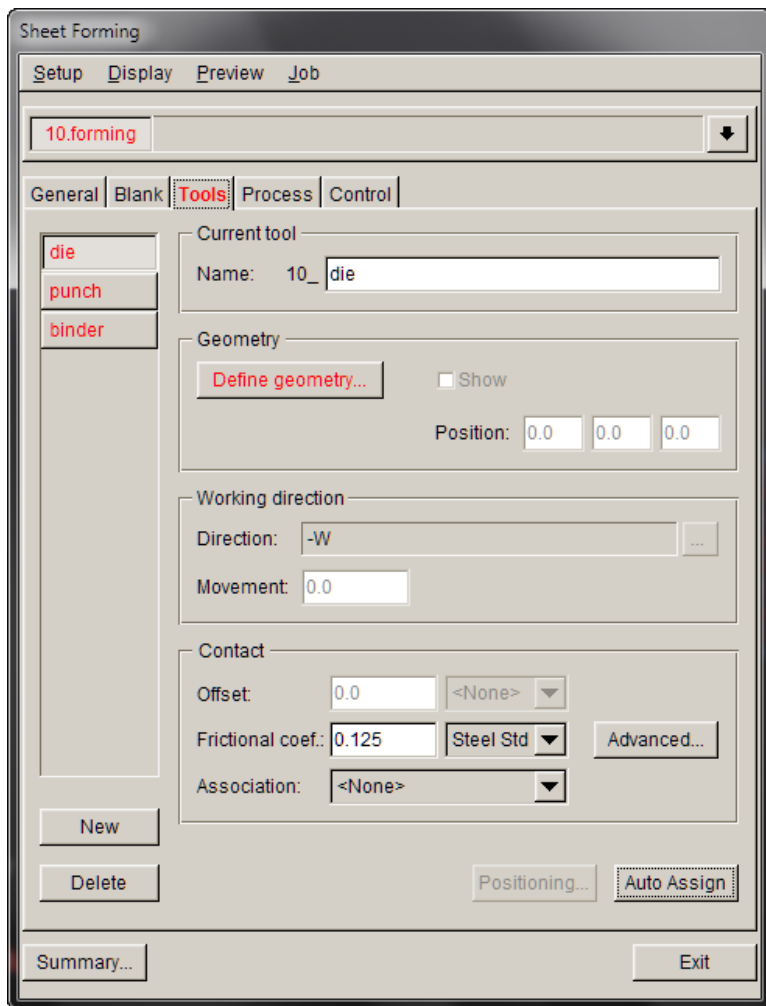

Figure 30
1. Click **Tools** to define tools. (Figure 30).